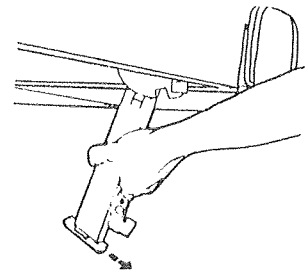

Figure 6
13. There are four stabilizer jacks on all trailers with the exception of the Columbia™, Redwood®, and Jamestown™ Limited models. One jack is located in each corner of the trailer. The Columbia™, Redwood® and Jamestown™ Limited trailers have two stabilizer jacks, one located in each rear corner. To release the jacks from the locked travel position, reach under the corner and firmly grasp the stabilizer jack, push it toward the center of the trailer (approximately 1/2"), and pull down until the stabilizer jack locks into place in the lowered position. See Figure 6.